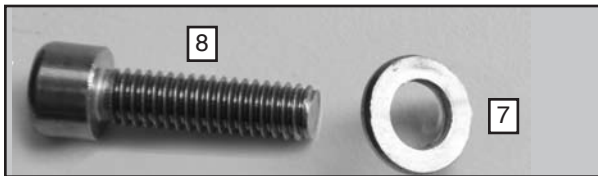

Figure 5
2. Make four Screw assemblies using [] ^ M6 Screw (8) and [] ^ Washer (7). **Figure 5.**